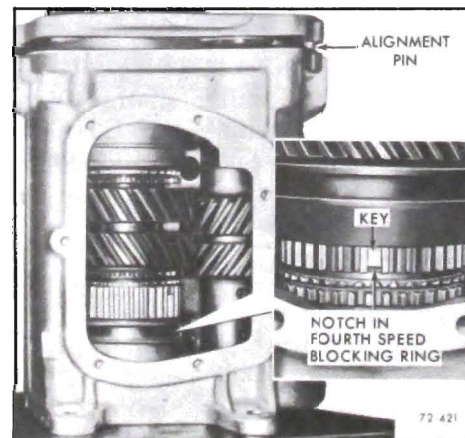

Figure 72-421 - Installing Mainshaft Assembly
11. Lower mainshaft assembly into case making certain notches on fourth speed blocking ring correspond to keys in synchronizing assembly. See Figure 72-421.